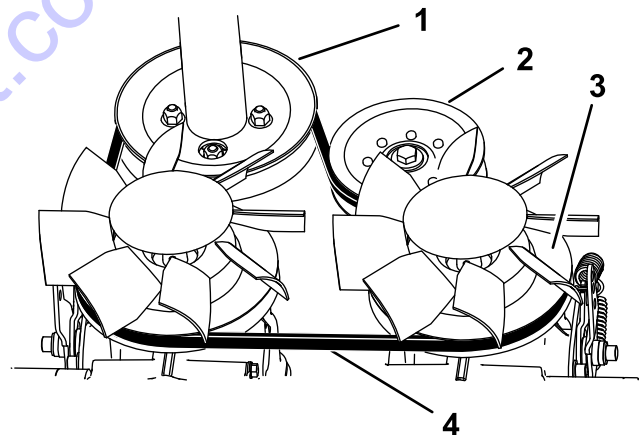

Figure 43
3. Transmission pulley (2)
9. Route the new belt around the engine pulley and 2 transmission pulleys (Figure 43).